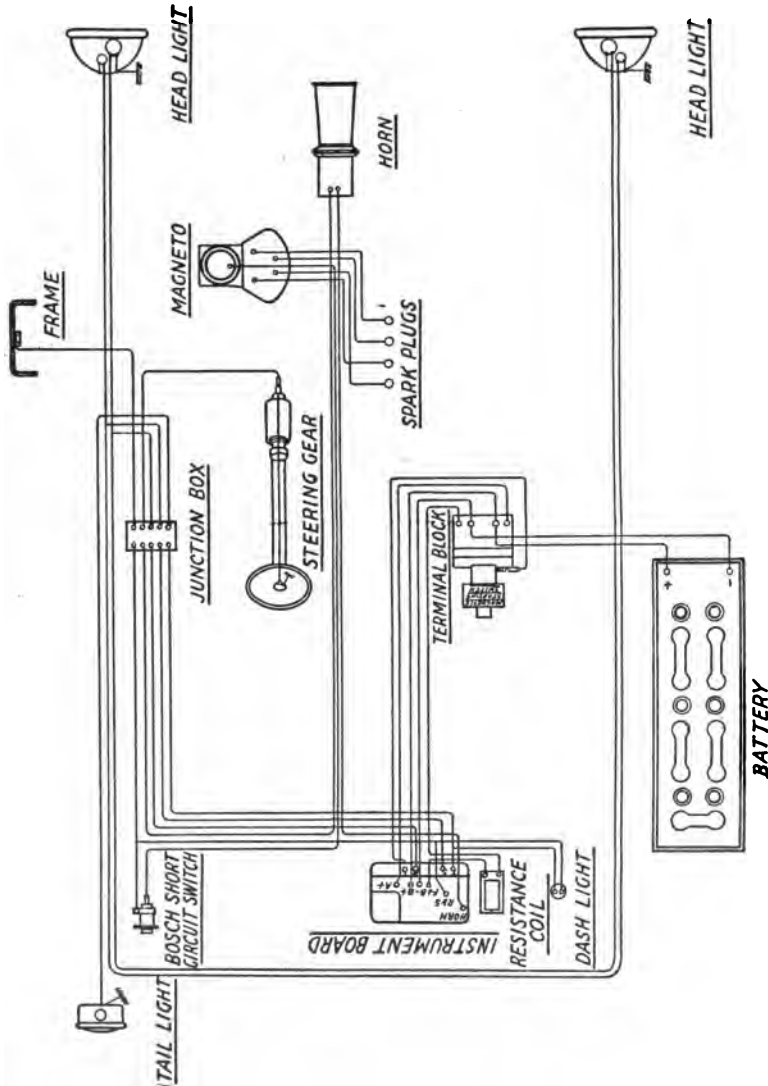

Fig. 338. Wiring Diagram of U.S.L. System on 1917 Mercer Cars
**U.S.L. 12-Volt System.** The U.S.L. 12-volt system generates and starts at 12 volts and is standard on the 1916 and 1917 models of the Mercer, Fig. 338. It differs from the other systems in having a magnetically operated starting switch and a centralized control unit, which incorporates all the controlling devices of the entire system, the cut-out, the ammeter, fuse blocks for generator and lighting circuits, starting switch, touring switch, head, side, and tail-light switches, all of which are operated by push buttons. All of these switch buttons, as well as the fuses, are locked in place, while the buttons may be locked in any desired combination of positions.